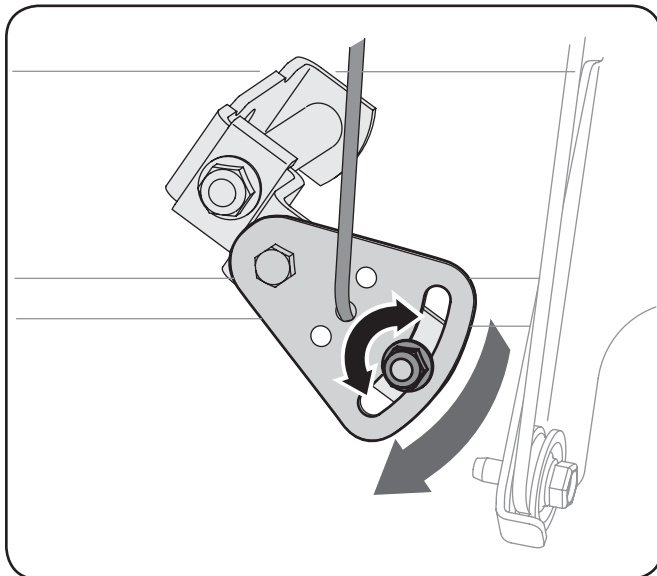

Figure 6-4
2. Loosen the hex nut on the shift cable index bracket. See Figure 6-4.